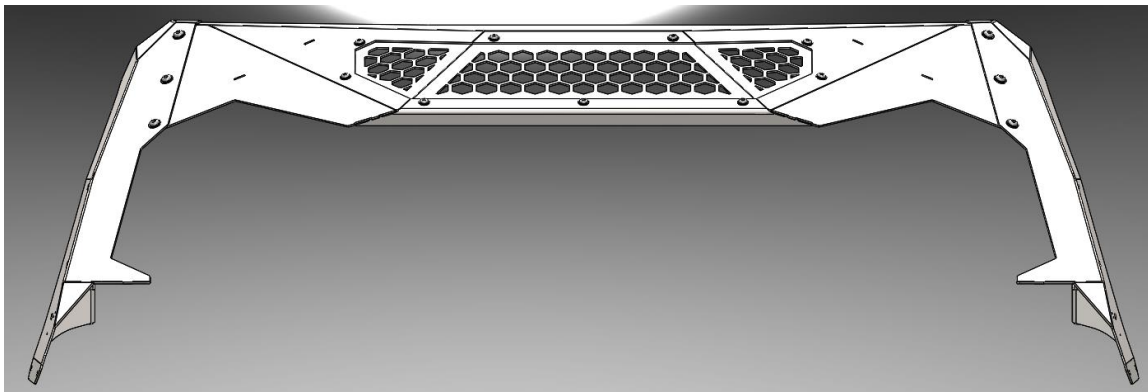

Fig 12
- e. Loosely install both ViCowl arms to the visor using the provided $\frac{3}{8}$ "-16 stainless steel bolts and rubber bonded washers as shown in **Fig 12**.
- b. Loosely install the $\frac{3}{8}$ "-16 hex bolt, zinc lock washer, and zinc flat washer through the lower hinge bracket and into the arm securing the ViCowl from falling lower on the vehicle as indicated in Fig 12 with the black arrow.